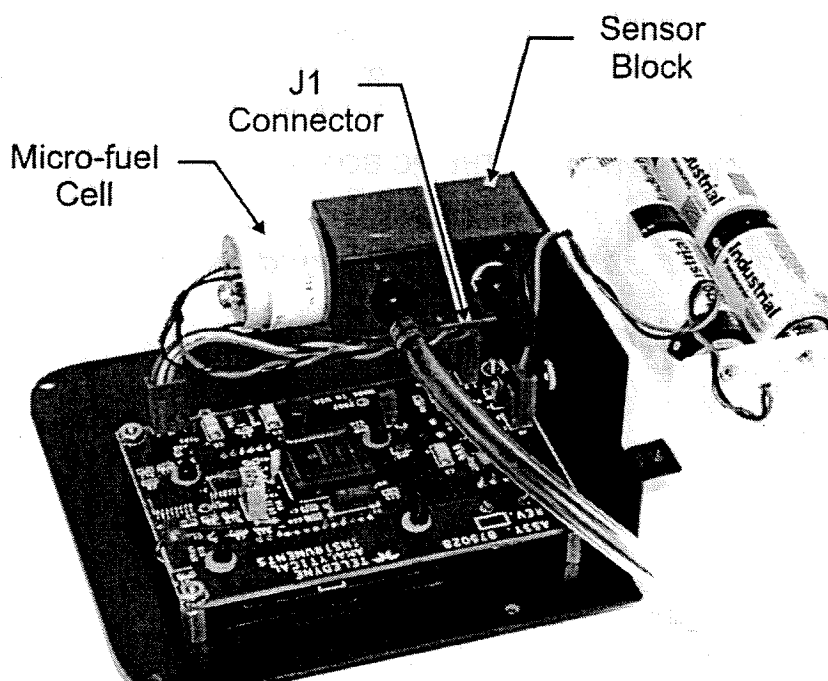

Figure 5-1: Replacing the Micro-Fuel Cell
3. **(Portable unit)** Turn over the front panel and disconnect connector J1. See Figure 5-1.